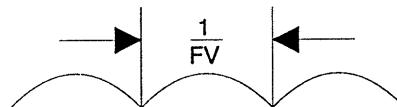
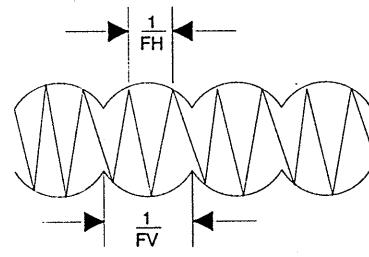

Figure 3-3 Voltage Correction Wave
Figure 3-4 Current Correction Wave
- If the width of the border in the center of the screen is insufficient, the waveform shown in Figure 3-3 below, can be used to add to horizontal deflection B+ in order to change the deflection of the horizontal deflection circuit. This waveform is the parabola obtained after regulation of the vertical period, and is created to perform amplitude modulation on the horizontal deflection current, as shown in Figure 3-4.